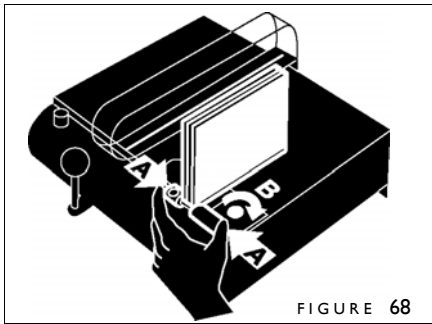

FIGURE 68
NOTE: Figures 68 through 72 are the same instructions as printed on the Scorer.
- After it has cooled, place your bound book block between the Book Thickness Rings (figure 68). Push the two rings together (A) and tighten the Book Thickness Locking Knob (B). Remove your book block.